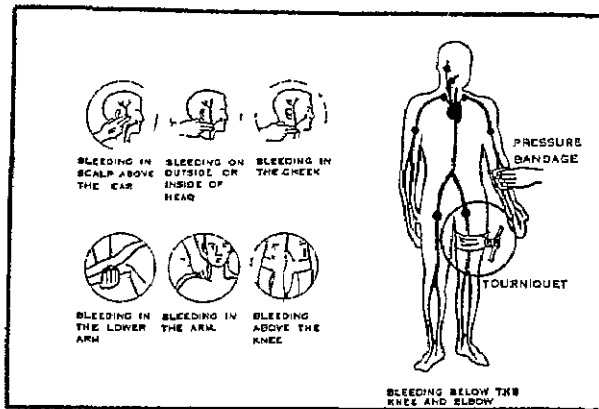

Figure 107. Pressure points.
- c. Use pressure points if blood is gushing (wherever strong pulse is felt). (See figure 107 on pressure points.)